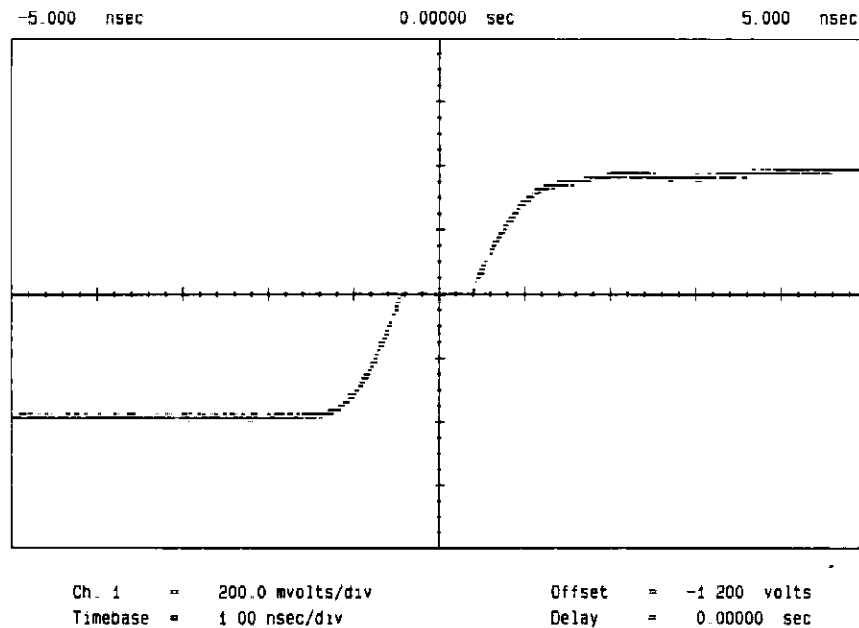

*Figure 4-5. Area of discontinuity is centered vertically.*
5. Slowly change pulse generator's delay in 100 ps steps until area of discontinuity is centered vertically on display. Refer to figure 4-5.